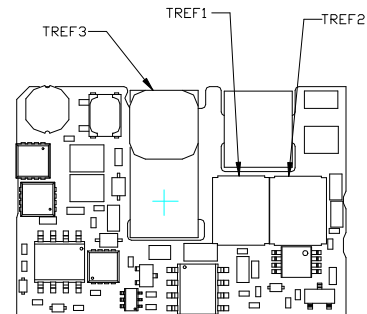

Figure 13. T_{ref} Temperature Measurement Locations.
To provide protection under certain fault conditions, the unit is equipped with a thermal shutdown circuit. The unit will shutdown if the thermal reference point T_{ref} (Figure 13), exceeds 135°C (typical), but the thermal shutdown is not intended as a guarantee that the unit will survive temperatures beyond its rating. The module can be restarted by cycling the dc input power for at least one second or by toggling the remote on/off signal for at least one second. If the auto-restart option (4) is ordered, the module will automatically restart upon cool-down to a safe temperature.
Considerations include ambient temperature, airflow, module power dissipation, and the need for increased reliability. A reduction in the operating temperature of the module will result in an increase in reliability. The thermal data presented here is based on physical measurements taken in a wind tunnel. The thermal reference point, T_{ref} used in the specifications is shown in Figure 13. For reliable operation this temperature should not exceed 120°C.